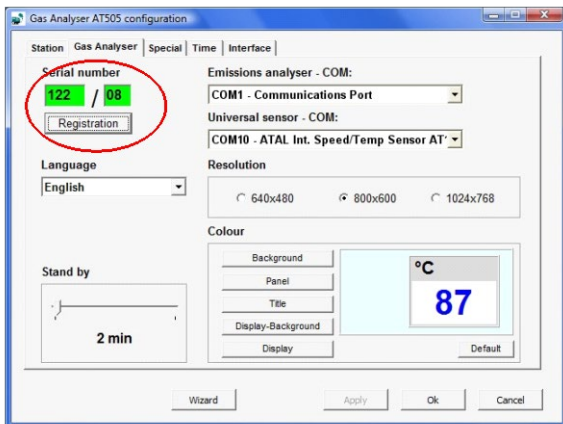

Fig. 17 – Registered serial number on a computer
- Registration button - By pressing this button you register the entered serial number with the PC počítače - see Fig. 17. (Analyser serial number which can be found on the underside of the analyser)